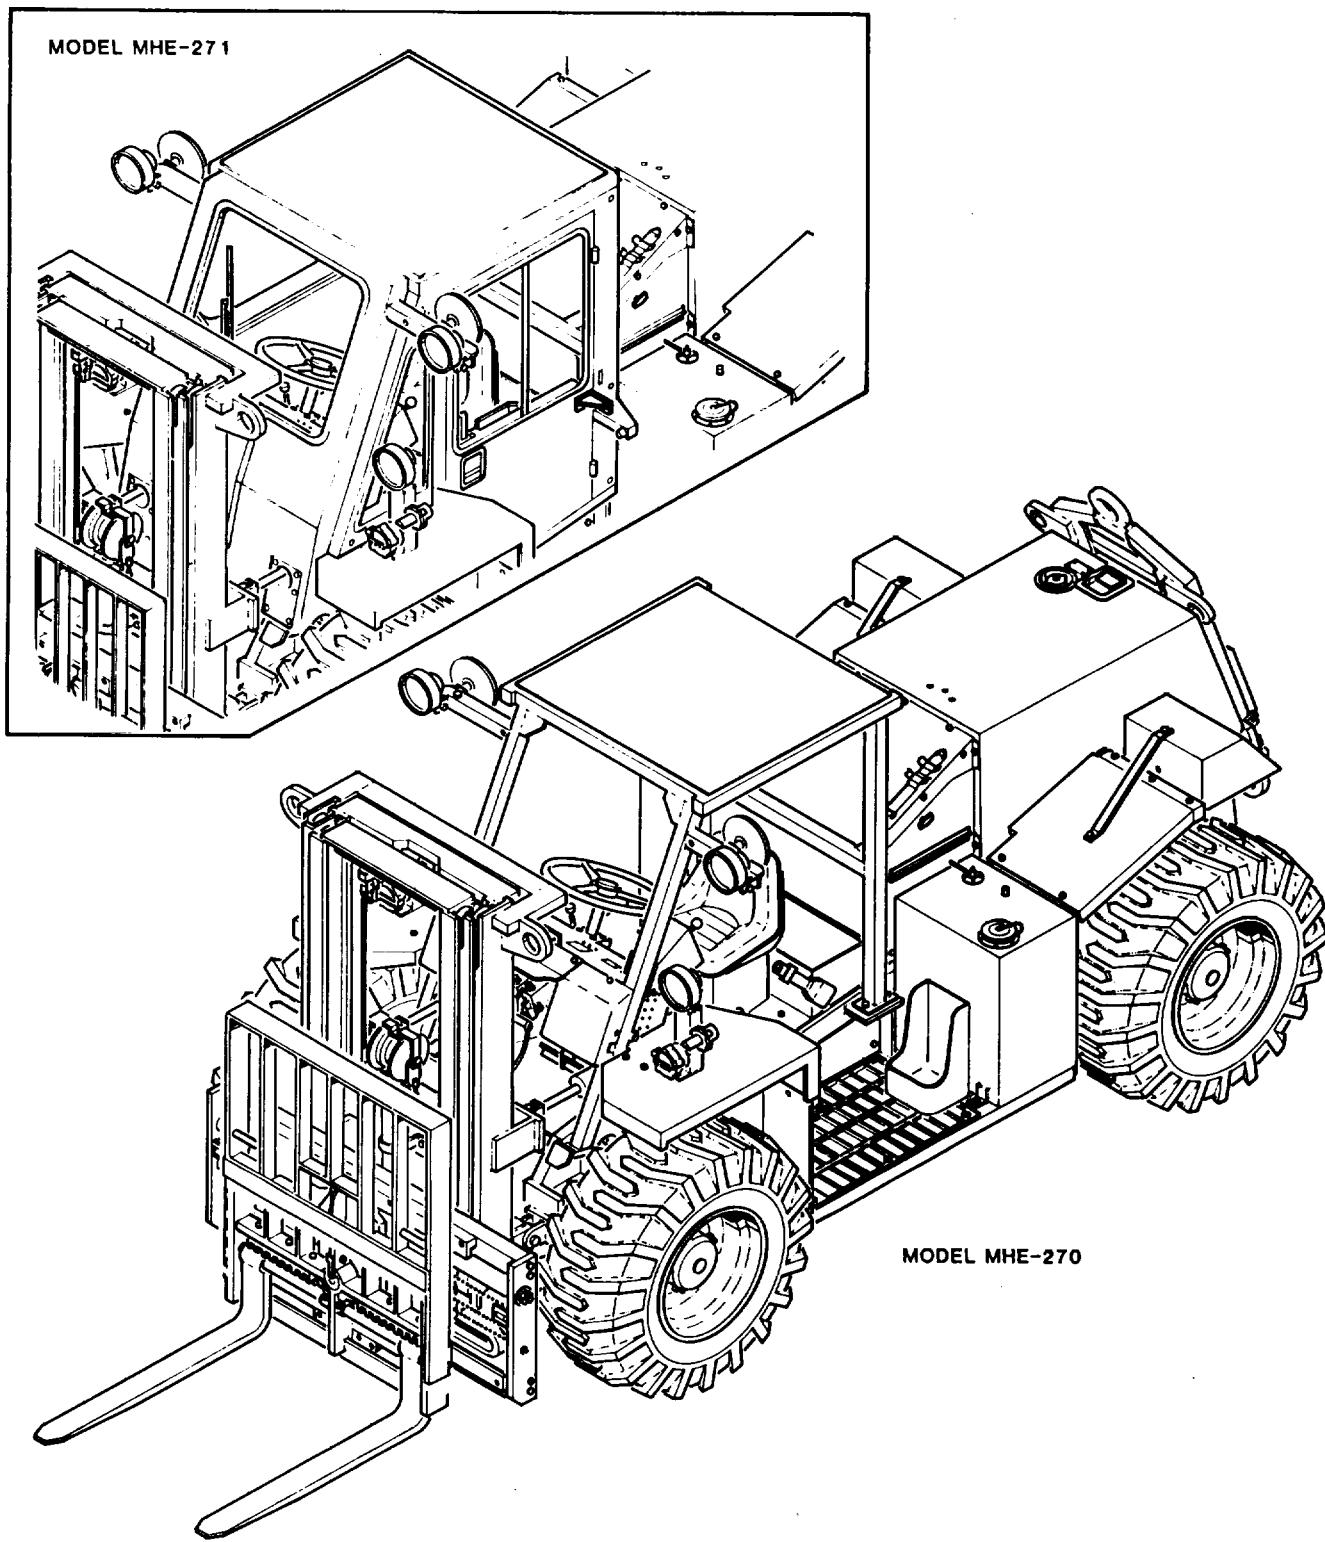

Figure 1-1. 4000 Pound Capacity Rough Terrain Forklift Truck,
- a. This manual is combined Unit, Direct Support, and General Support maintenance manual for the 4000 Pound Capacity Rough Terrain Forklift Truck, 4K RTFL, Models MHE-270 and MHE-271, Figure 1-1 (hereafter referred to as forklift).